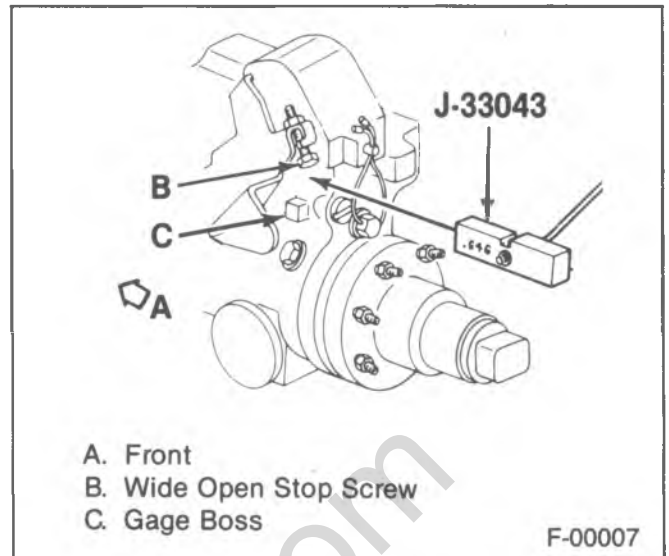

Figure 5—TPS Adjustment Block
4. Insert the proper "switch closed" gage block between the gage boss on the injection pump and the wide open stop screw on the throttle shaft (figure 5).
4. Insert the proper gage block between the gage boss on the injection pump and the wide open stop screw on the throttle lever (switch on position) (figure 5).